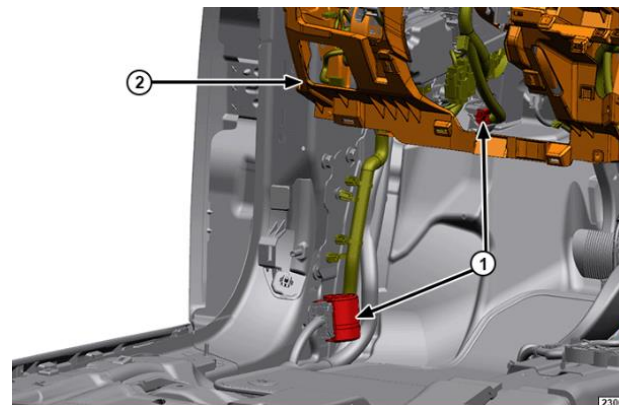

Figure 6 – Wire Harness Connectors
- Position the carpet aside on the driver side and disconnect the wire harness connectors (1) (Figure 6).